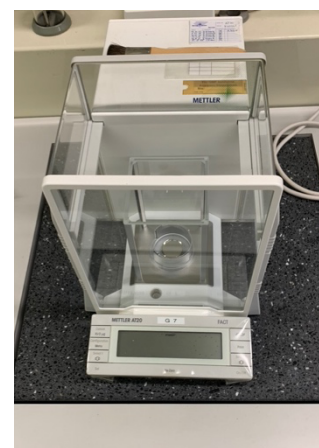

Fig. 1. Mettler AT20 microbalance
1. Weigh **50 – 100 µg** of your compound with a microbalance (e.g. the one in front of the Synapt G2 instrument, Fig. 1) directly into the vial and write down the mass in your laboratory journal.